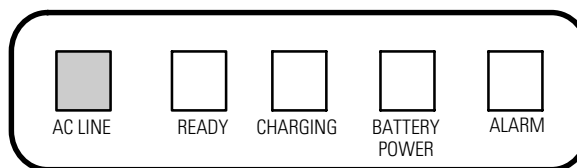

Figure 4. Front Panel Indicators
- The AC LINE indicator illuminates (see Figure 4).